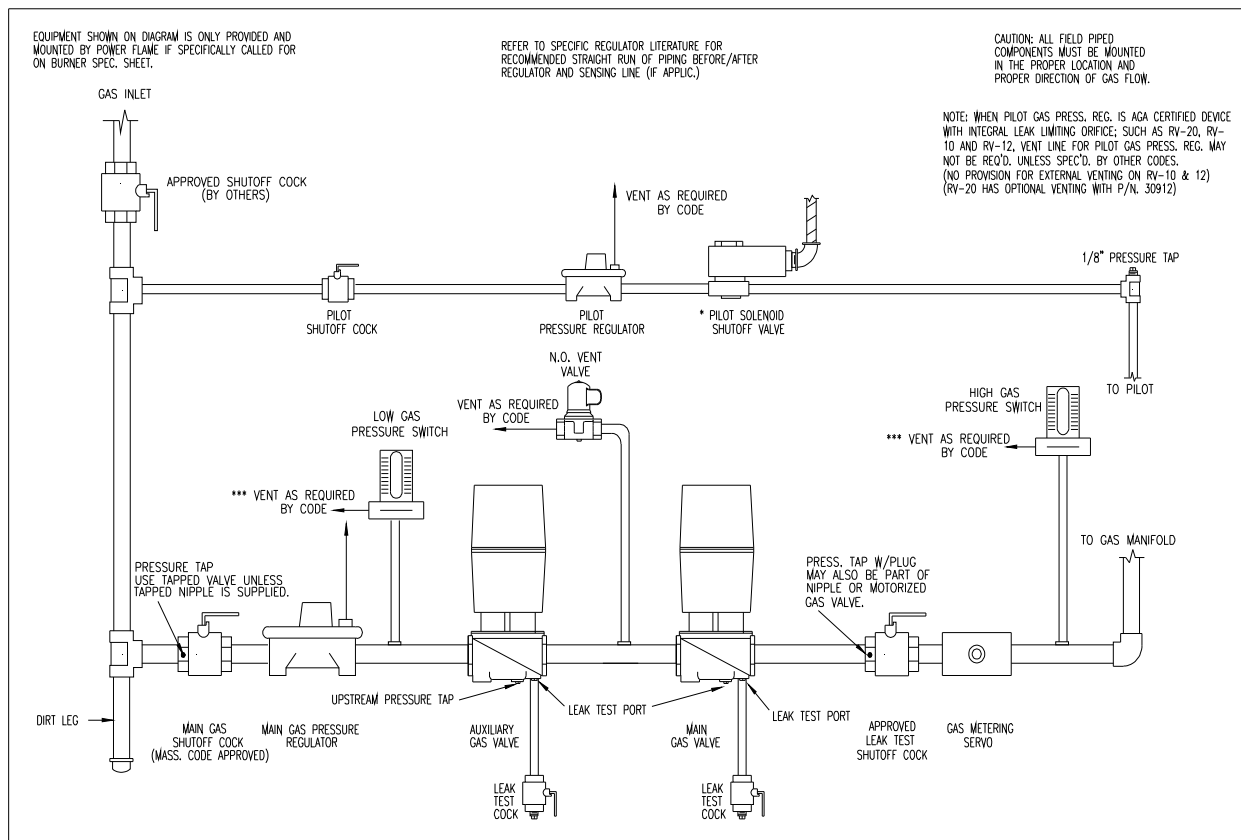

Figure 2: Typical Gas Piping Schematic for Model UCM Burner
- 2.1.6 Refer to Figure 2 for the typical gas piping schematic to meet U.L. requirements in the UCM burner firing ranges.